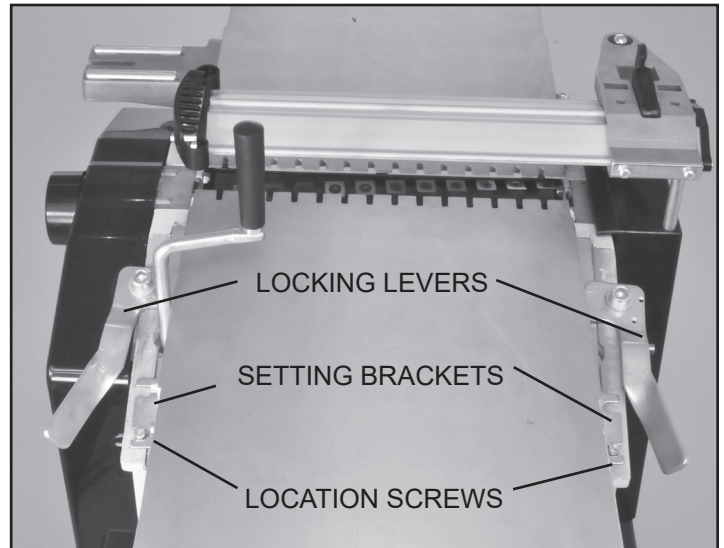

FIG. 12
1. Position the outfeed table onto the left end of the machine frame. The two Setting Brackets (#158) fit over the pre-installed Pan Head, Location Screws (#160) on the frame for positioning, and then lock the table in place with the Levers (#233, 234). FIG. 12 & 13.